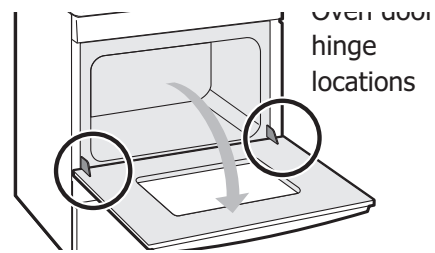

Figure 49: Door hinge location
1. Open oven door completely, horizontal with floor (See Figure 49).
3. Fully open the oven door, horizontal with floor (See Figure 49).